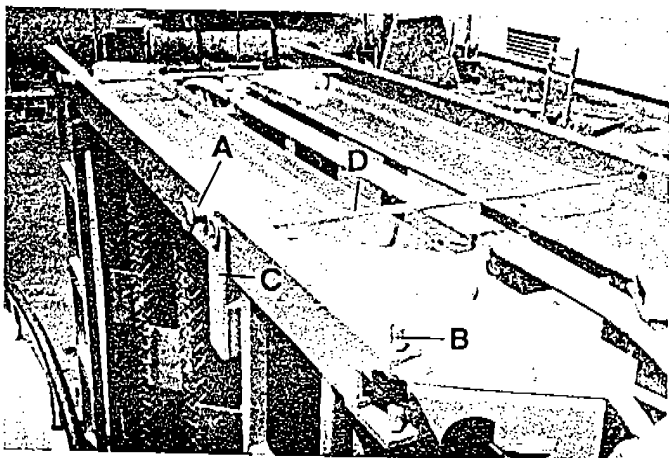

Fig. 93
- knobs (a) on the cross bar to face up. (Refer to Fig. 93)
- (2) Slip the holes in the ends of the cross bar over the pins at both ends of the steps frame (b). (Refer to Fig. 93)
bar of the outside step jack support frame and continue through the hole in the outside fastening ear. *Snap Key in Place.* Repeat on the other side of the rack. (Fig. 93)